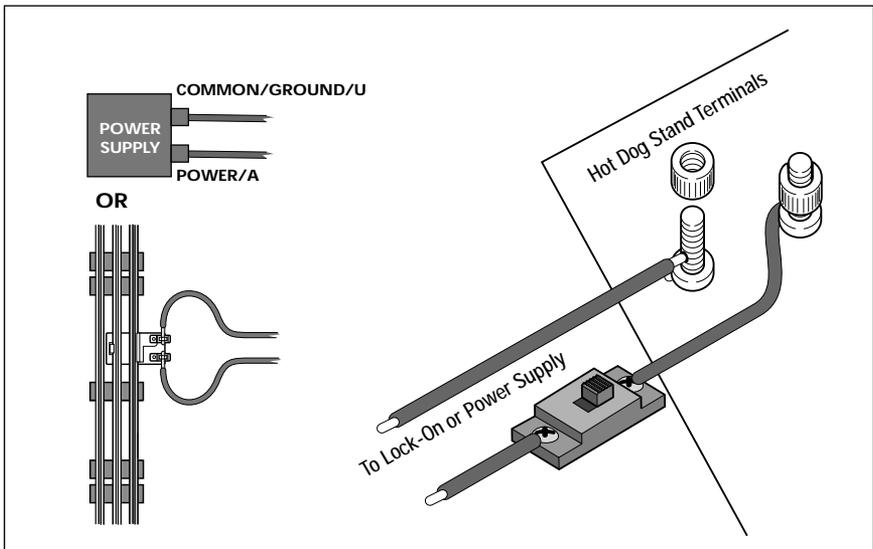

Figure 1. Power connections
Your Hot Dog Stand operates best at 12-18 volts (AC). As illustrated in Figure 1, you may connect the accessory to a separate power supply or to a Lionel Lock-On (available separately, 6-62900) connected to your track. You will need the ends of the wires to be stripped back 1/4" to 3/8".